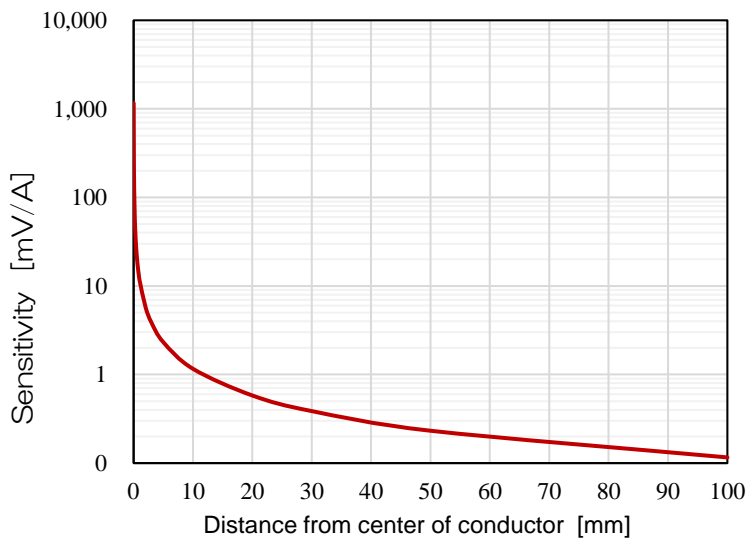

Fig.3 Sensitivity graph
- As shown in ③, the magnetic field becomes weaker at locations away from the center of the conductor, and the sensitivity changes as the graph in Fig.3 shows OpECS can measure currents greater than the measurable current at a distance.